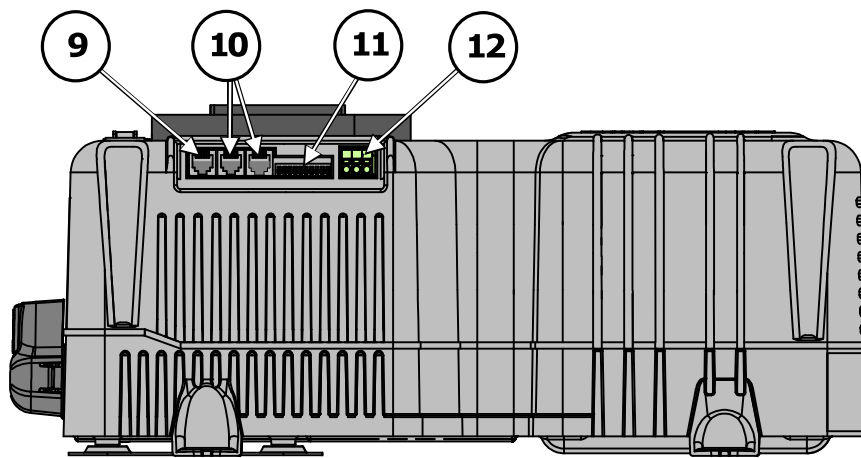
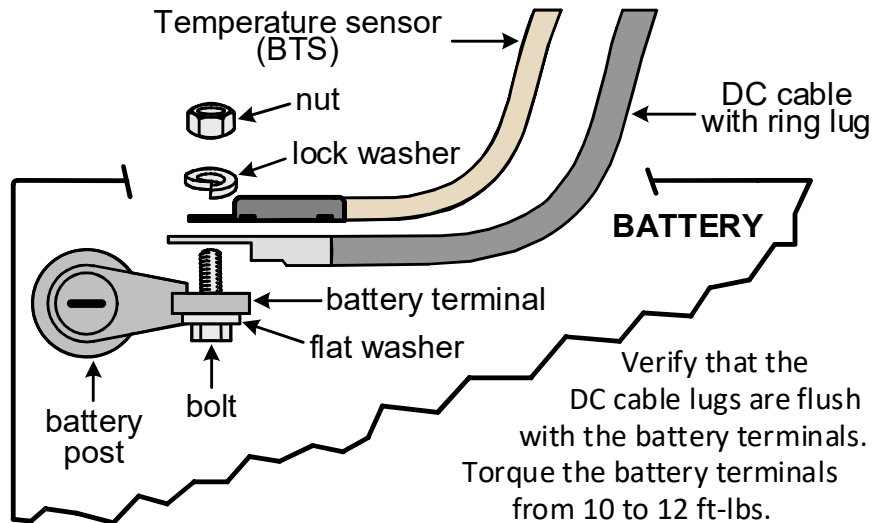

Figure 1-4, Right Side Features
Figure 2-4, DC Cable to Battery Terminals
The BTS cable comes with a RJ11 connector that plugs into the BTS port on the side of the inverter (Figure 1-4, Item 9). Refer to Figure 2-4 for installation instructions, and to Section 4.4 for information on the operation of the BTS.
Refer to Figure 2-4 when connecting the DC wires to the battery. Also, to ensure maximum performance consider the following:
Do not put anything between the battery cable ring lug and the battery post (see Figure 2-4). When connecting the battery cable, it should be placed directly against the battery post. Incorrectly installed hardware causes a high resistance connection which could lead to poor inverter performance, and may melt the cable and terminal connections. Torque from 10 to 12 ft-lbs.
8. Connect the other end of the BTS to the negative terminal of the last battery string (place hardware per Figure 2-4).
- Ensure the DC wire connections (on the battery terminals, fuse lugs/DC circuit breaker, and disconnect) are flush on the surface of the DC terminals, and the hardware (lock washer and nut) used to hold these connections in place are stacked correctly (see Figure 2-4).